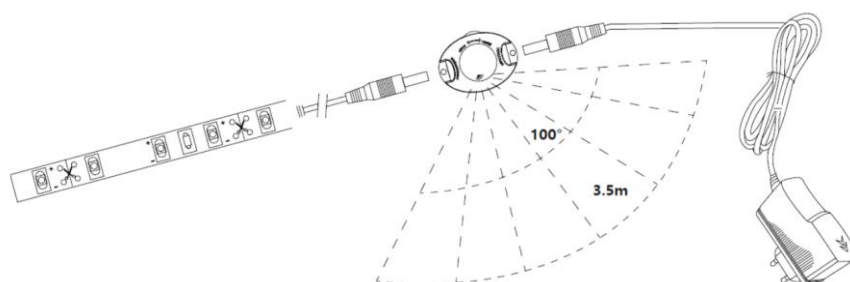
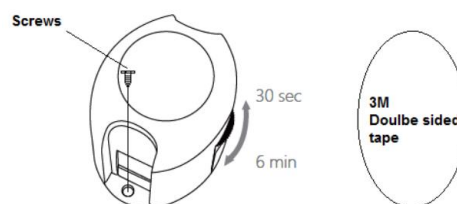

Fig. 3
Fig. 4
4. Connect the LED ribbon to the sensor. Fig.3. Secure the sensor using double sided tape or screws. Fig. 4
5. Connect the power adaptor to the sensor. Fig. 3
7. Adjust the sensor timer via turning the knob. The ribbon can be set to light up for minimum 30 seconds and maximum 6 minutes. Fig. 4